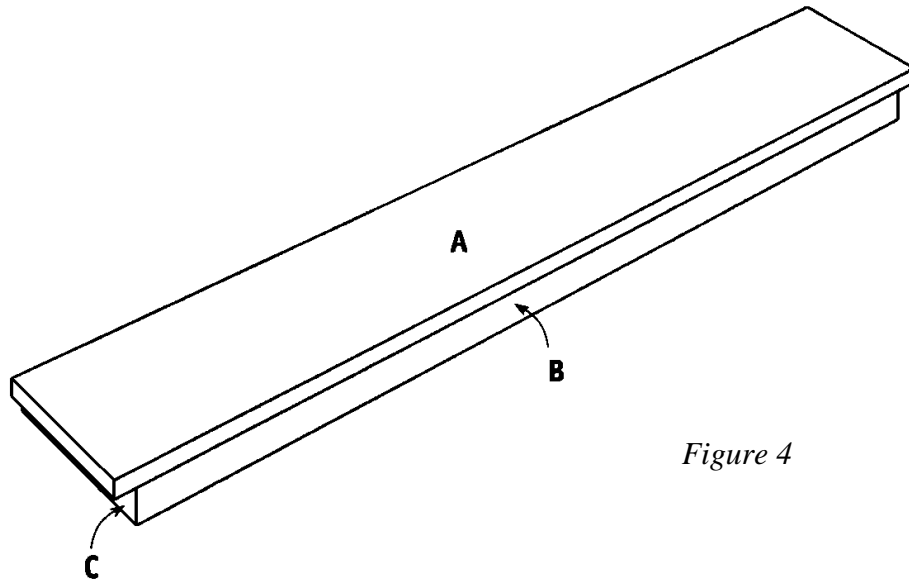

Figure 4
6. Place the Top Ledge (A) over the assembled Front and Side Supports (B and C) as shown in Figure 4. The edge of the Top Ledge (A) should overhang the ends and front sides of the Side Supports (C). Apply glue to the meeting surfaces, and screw through the face of the Top Ledge (A) into the Front and Side Supports (B and C) using 1-5/8" screws.
7. Cut one Ledge Mount (F) from 1 x 2 pine measuring 25 inches. This board will be mounted to the wall with screws and the ledge will be attached to it.